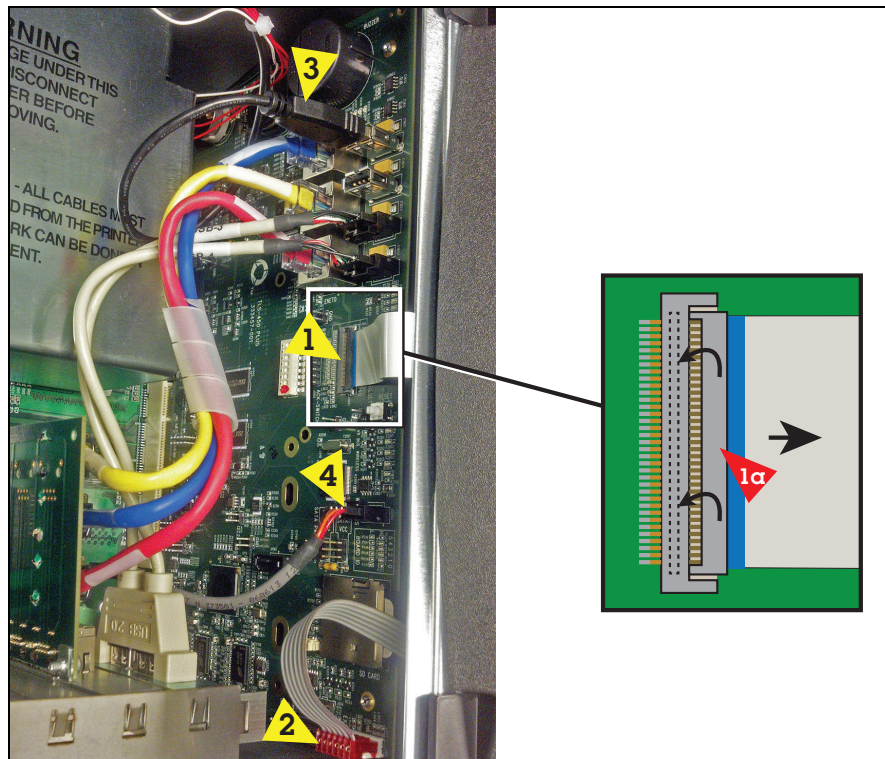

Figure 5. Remove Optional Printer And Display Cables From CPU Board
- Figure 5. Remove Optional Printer And Display Cables From CPU Board 5
For right doors with the optional touch display, remove the Display Data cable (pointer 1 in Figure 5) from the CPU board connector. Rotate the locking member of the cable's Display connector (1a pointer) up 90° from the connector's fixed base and slide cable end out
- Remove the LED Back light cable (pointer 2 in Figure 5) from the CPU board connector.
4. If a printer is installed, remove the printer's USB cable (pointer 3 in Figure 5) from the top USB connector (USB 1).
5. Remove the Wireless cable (pointer 4 in Figure 5) from the CPU board connector.
22. Reconnect the optional Printer, LED Backlight and Wireless cables (ref. Figure 5).
6. Reconnect the optional Printer cable to the USB1 connector, LED Backlight and Wireless cables (ref. Figure 5).